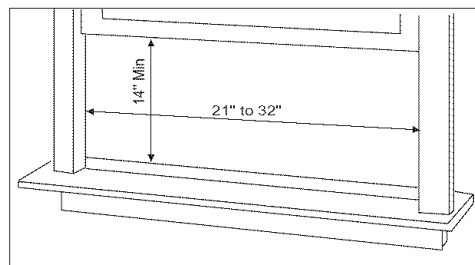

Fig. 1
See lists below. (Fig. 1)
1. If your air conditioner cabinet 18" wide, it will fit window openings 21" to 32" in wide. Minimum opening height is 14" from bottom of sash to sill (Fig. 1).